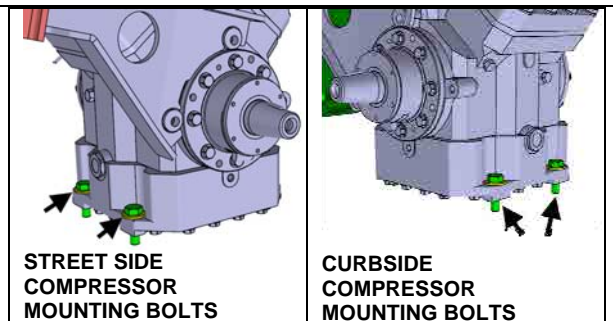

FIGURE 11
17. If bolts **C** & **E** (see two previous steps) are difficult to align in the hole, the compressor may be moved. Loosen the compressor mounting bolts (4x) at the base. (see FIGURE 11).